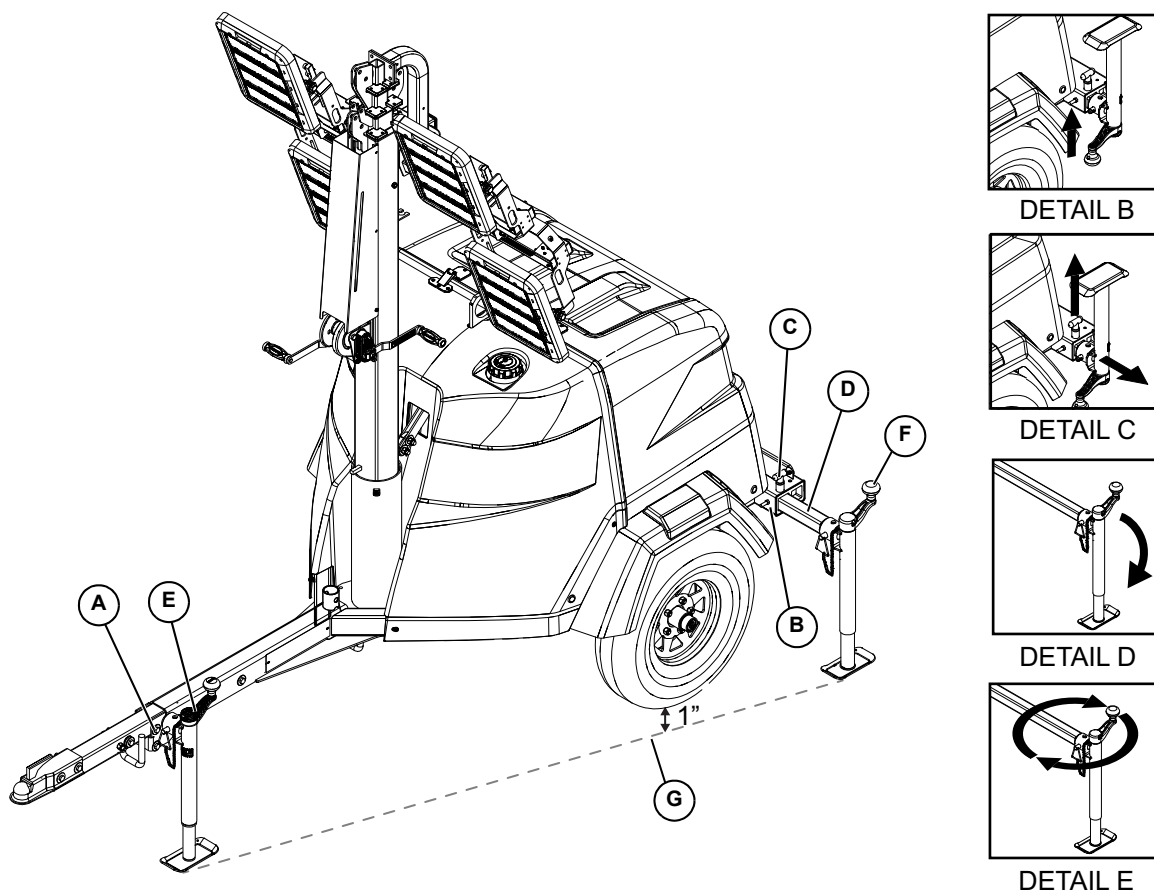

Figure 3-1. Set Up Outriggers and Jacks
2. See Figure 3-1. Place the unit on firm, flat ground, and block the wheels to prohibit movement. This will make it easier to level the unit.